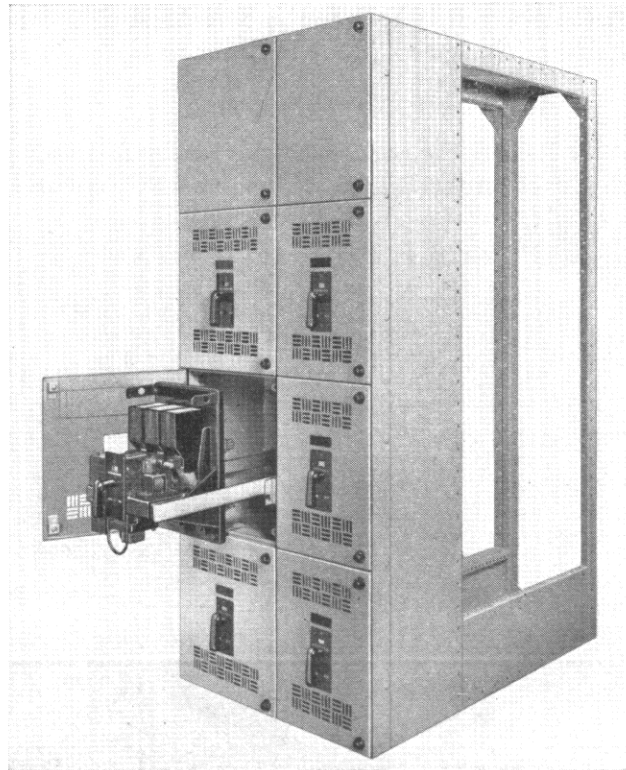

FIG. 15. Type DB-25 Element in Position on Rail Extensions Ready for Insertion in the Compartment
**Accessories.** Standard accessories furnished for types DB-25 and DB-50 switchgear include a set of rail extensions and a levering device. Figs. 15 and 16 illustrate the manner in which the rail extensions are used in completely withdrawing the element from the compartment and show the method of moving the element into, or out of, the "connected" position by use of the levering device.